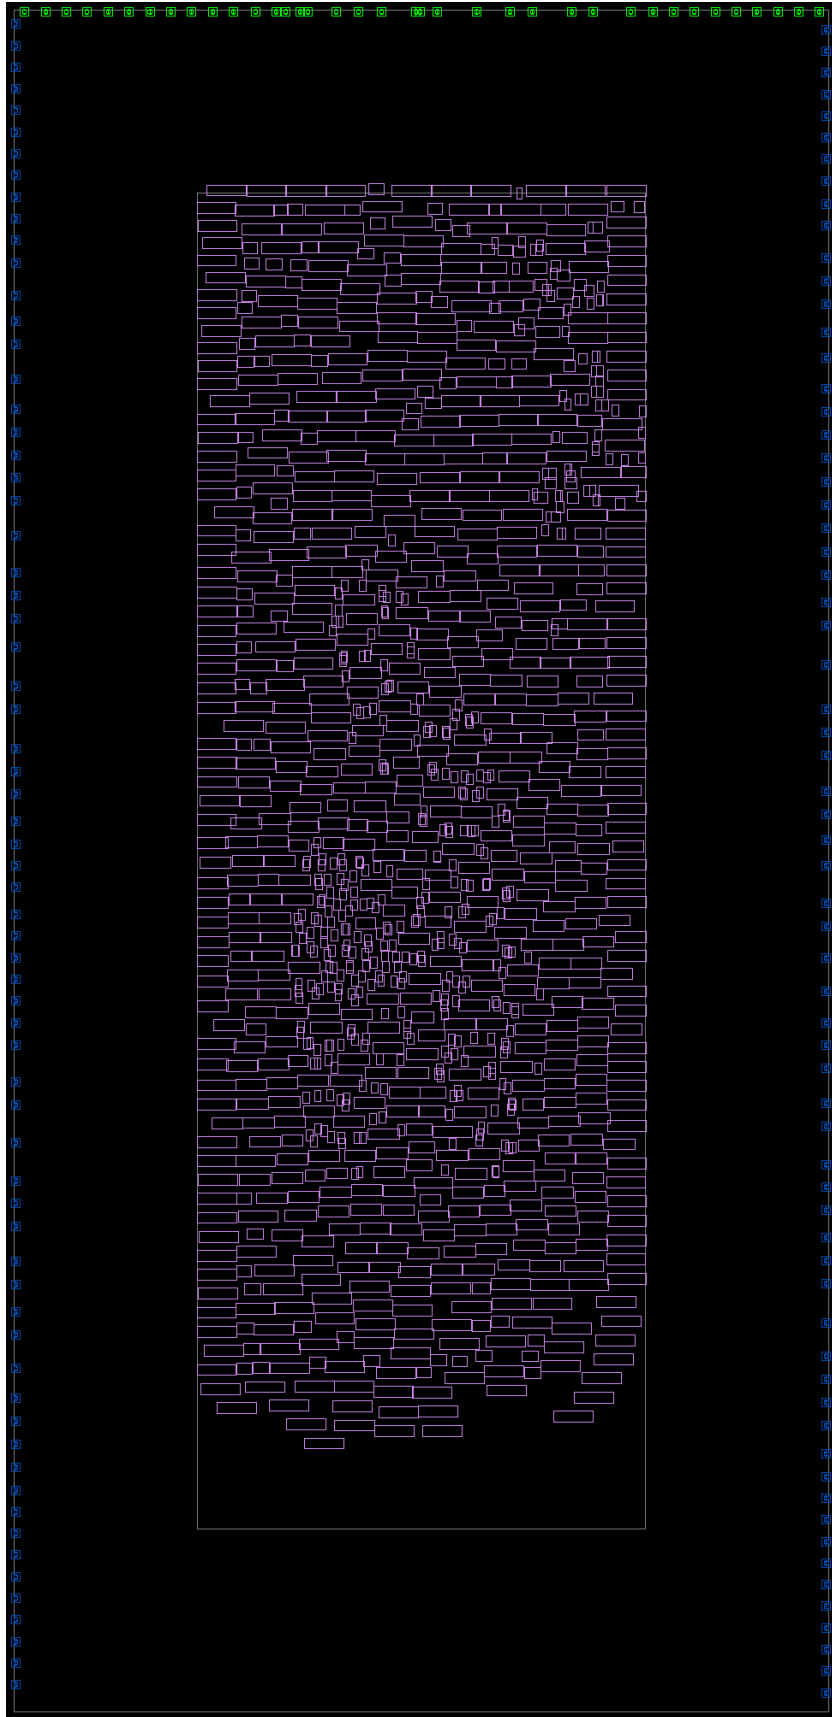

Figure 4.3: Automatic floorplan with block pin constraints.
3. Pins are spread apart and present on top and both sides, causing the core content to be flipped closer to new pin locations (Fig. 4.3)